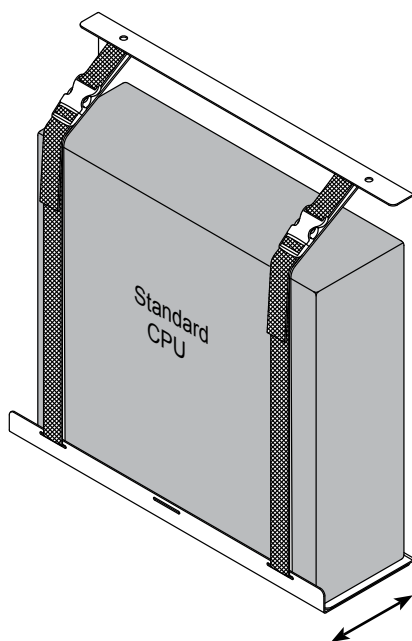
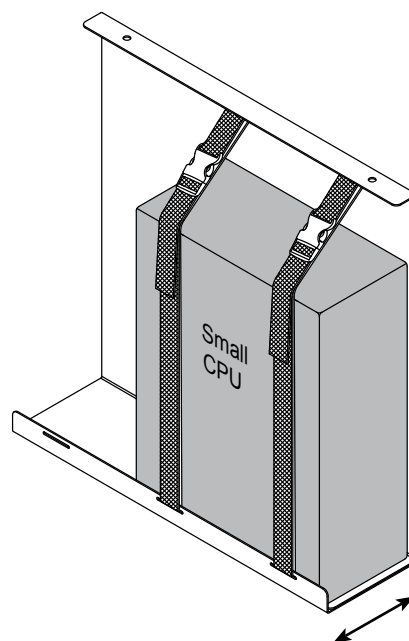

Figure 4A
Figure 4B
- Figure 4A.** The center slot can be used with smaller CPU's. **Figure 4B.**